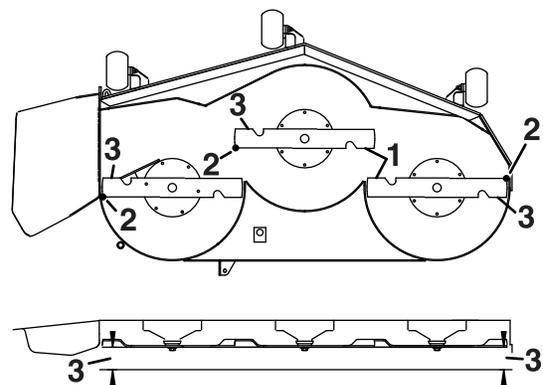

Figure 63
5. Measure between the outside cutting edges and the flat surface (Figure 63).